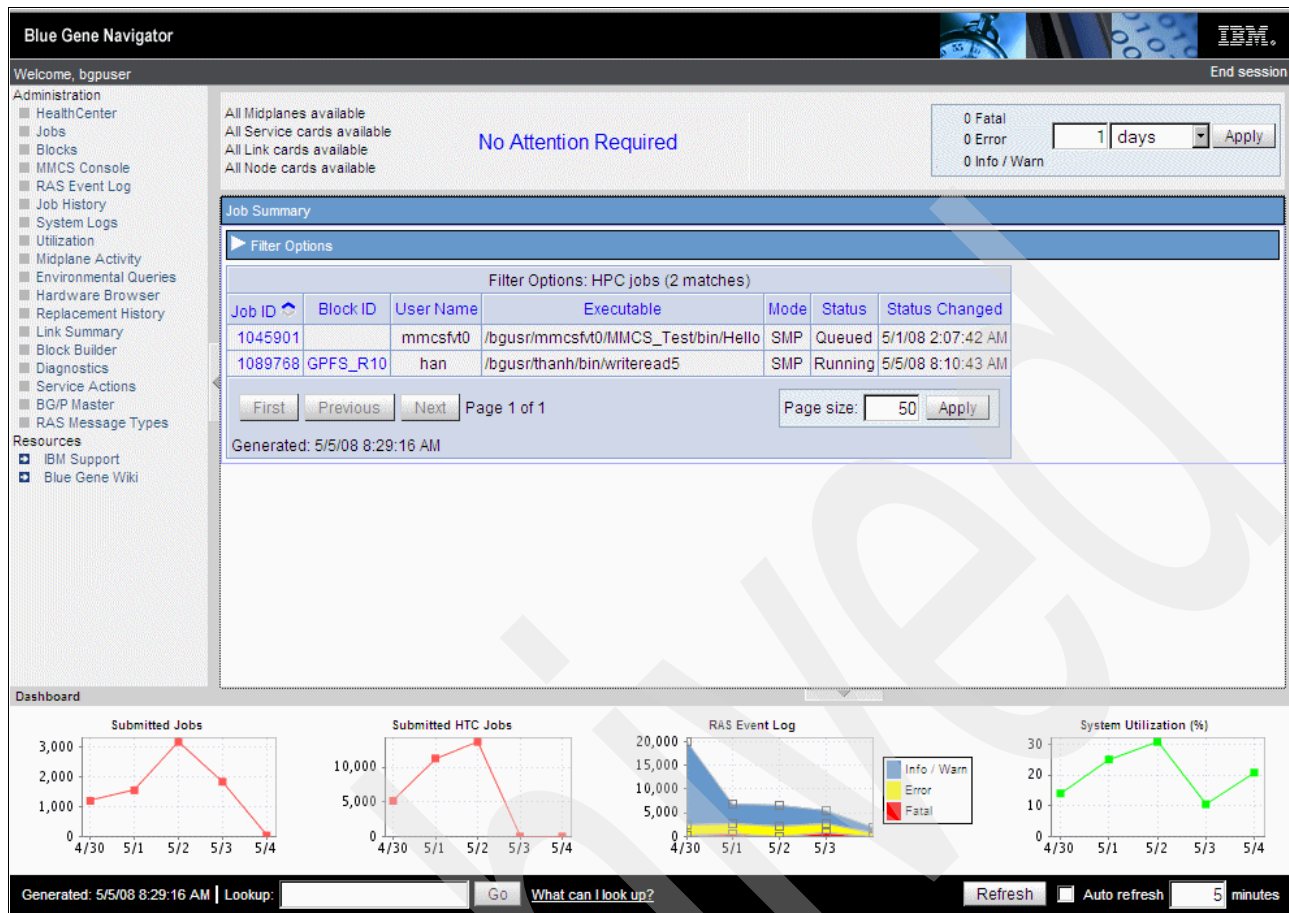

Figure 2-1 Jobs page
Start by accessing the administrative version of Navigator to open the Jobs page shown in Figure 2-1 at the following Web address:
**Note:** Figure 2-1 is shown with the HTC jobs graph. By default the HTC jobs graph is not configured on the system. You can find instructions about adding the chart in “High Throughput Computing Jobs graph” on page 37